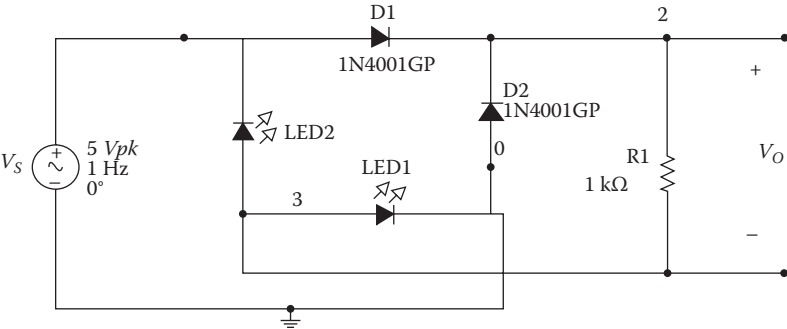

FIGURE P6.7
Problem P6.7 A full-wave rectifier, built using LEDs and diodes, is shown in Figure P6.7. LED1 is a green LED, and LED2 is a red LED. (1) Use the Analog